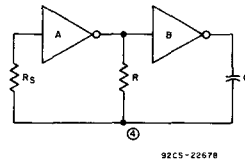
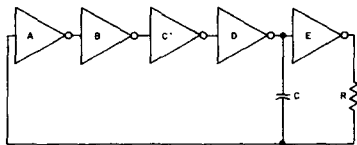

Fig. 4—RC-oscillator with the addition of  $R_S$ .
Fig. 8 - CD4047A oscillator section 92CS-22676
The negative features of the input protection circuit can be partially compensated for by the addition of a resistor,  $R_S$ , in series with the input protection circuit, as shown in Fig. 4. Although the input inverter A is still clamped at one diode drop above  $V_{DD}$  or one diode drop below  $V_{SS}$ , the waveform at point (4) is allowed to swing well above  $V_{DD}$  and below  $V_{SS}$ . The larger swing reduces the dependency of transfer-voltage variations upon stability; the variable characteristics of the input protection circuit and their effect upon stability are greatly reduced. An analysis of this circuit is presented in
The RCA-CD4047A is an integrated RC oscillator that eliminates most of the disadvantages of the discrete circuits previously discussed. The primary reason for this improved performance is the special input-protection circuit which allows the capacitor charging waveform to swing above  $V_{DD}$  and below  $V_{SS}$  without the need for an external resistor. This circuit, shown in Fig. 8, has the same time period and stability as the circuit in Fig. 4 for the case where the value of  $R_S$  is infinite. However, a resistor is eliminated, as well as the disadvantages of a time constant caused by the resistor.
An additional advantage of the CD4047A is a reduction in power dissipation as compared to the discrete multivibrators discussed previously. Inverter A in Fig. 8 is designed with high-impedance components that limit power dissipation during the time that the inverter operates in the middle of its transfer region. Four additional inverters are used to gradually shift from a very-high-impedance inverter at the input to a very-low-impedance driver in series with the external timing resistor. Calculations for power dissipation and a comparison of  $P_{diss}$  for the CD4047A and a discrete oscillator are presented in Appendix D; the result is